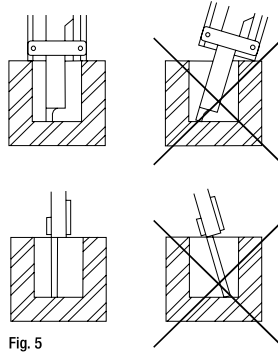

Fig. 5
- **Depth Measurement:** place the depth-measuring rod (3) perpendicular to the part bottom to be measured (fig. 5).